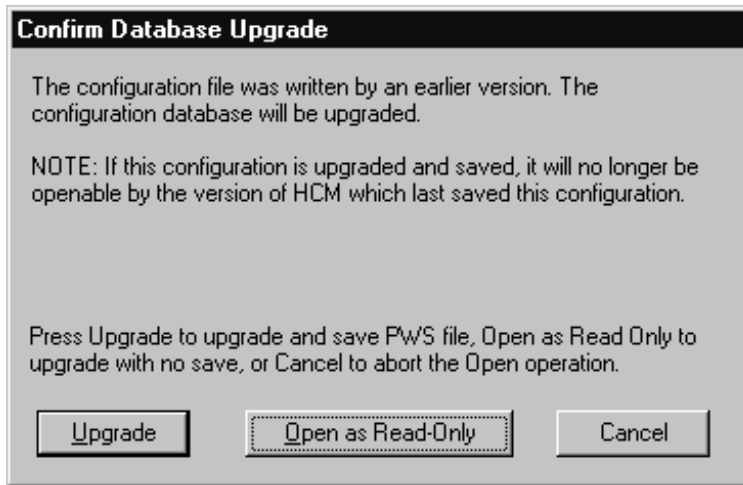

Figure 30. Confirm Database Upgrade
1. Open the pre-V1R7 configuration file (**File → Open**). HCM prompts you to either upgrade or open the file as read-only (Figure 30 on page 70). It is recommended to use the **read-only** option, because this choice keeps a backup of the original configuration file. Or you can load a pre-V1R7 IODF into a new or existing, pre-V1R7 configuration file (**File → IODF**). Depending on the size of the IODF, this process can take quite some time because HCD converts the loaded IODF data into the new version 5 format.